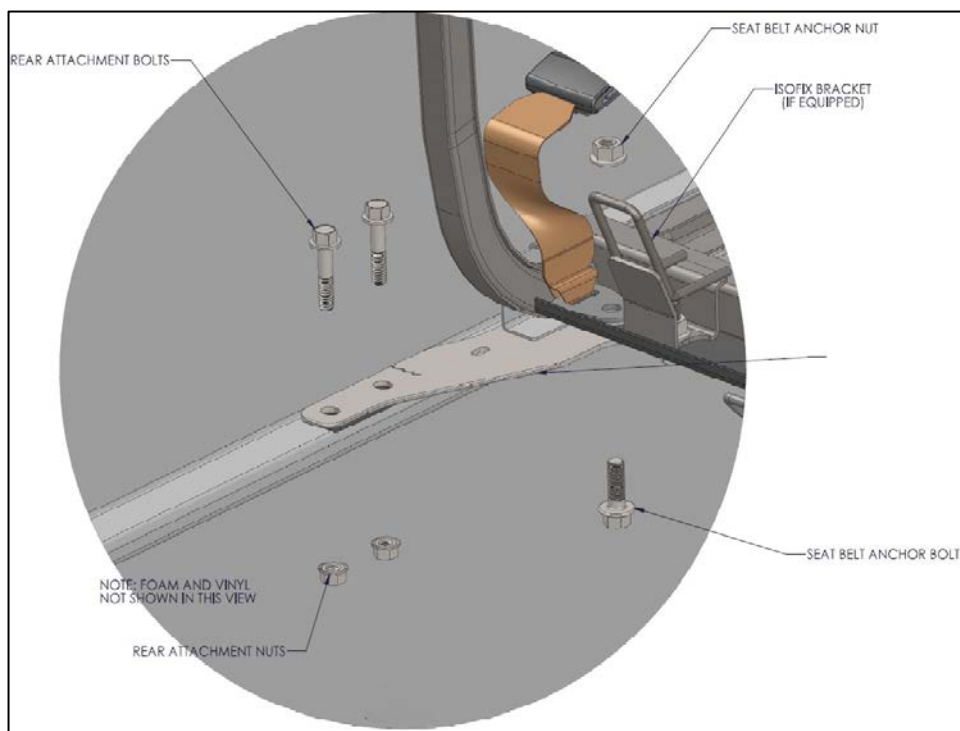

Figure 3: Hardware to Remove (Driver's Side Shown)
4. Remove the rear attachment 9/16 inch bolts and nuts from the wall bracket, retain for reinstallation. See **Figure 3**.